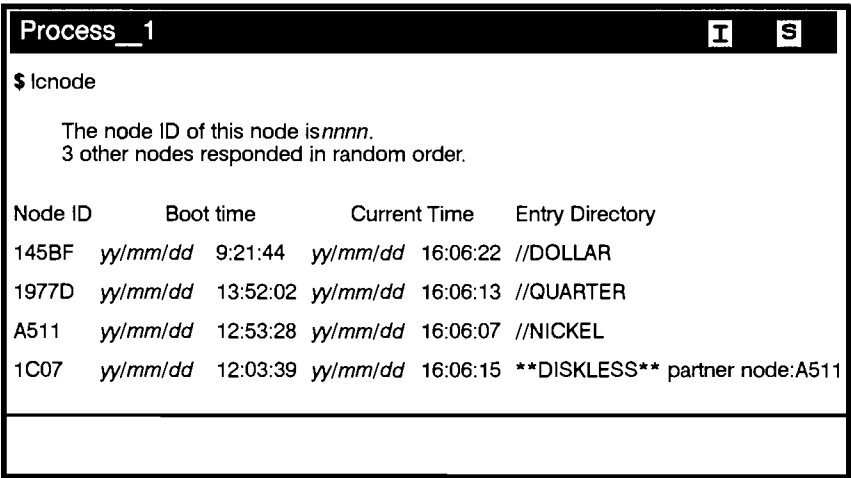

Figure 9-12. Sample lcnode Response
4. You see a screen similar to the one shown in Figure 9-12.